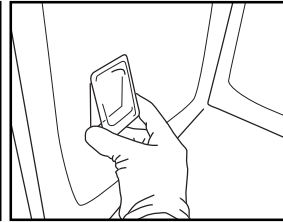

Fig. 9
5. Reposition the lamp cover, pushing it on firmly until it snaps into place (Fig. 9).